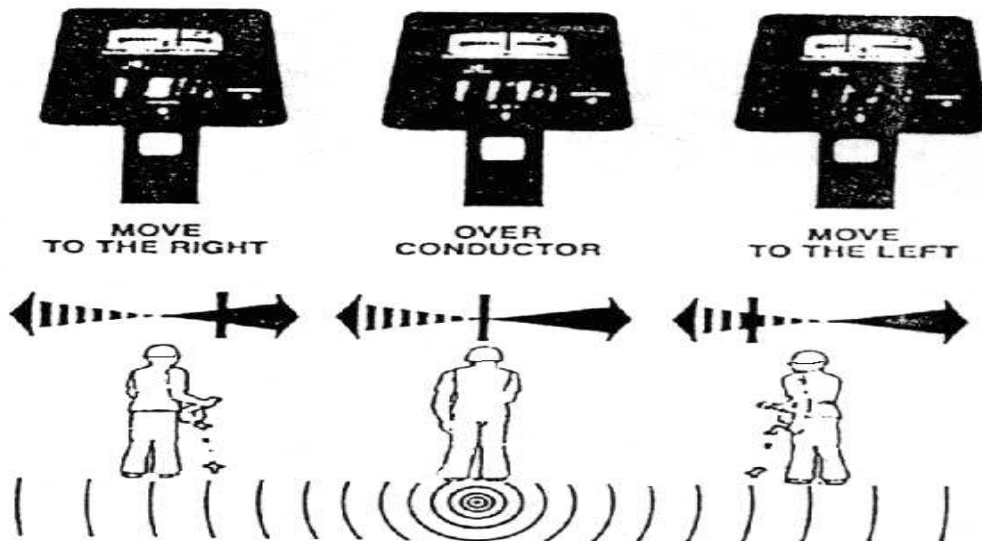

Figure 10, Receiver Guidance System
- The visual indicators and audio tone on the 8I0 Receiver will guide you toward the conductor. The needle on the left/right guidance meter will move to the right and the tone will be steady if the conductor is to your right. The needle will move to the left and the tone will pulse if the conductor is to your left. The signal (or field) strength on the digital display (LCD) will rise as you approach the conductor. As you close in on the location of the conductor, the meter will move towards the center, the signal strength on the LCD will get higher, and the tone will become silent. When the Receiver is directly over the conductor, the needle is in the center of the meter, the field strength is at its peak number, and the tone is silent (Figure 10).